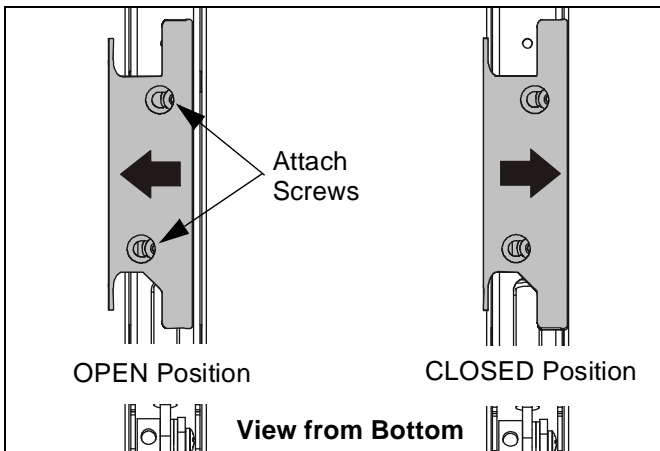

Figure 8
2. Open the cable management bracket by sliding it towards the edge of the arm (See Figure 8).